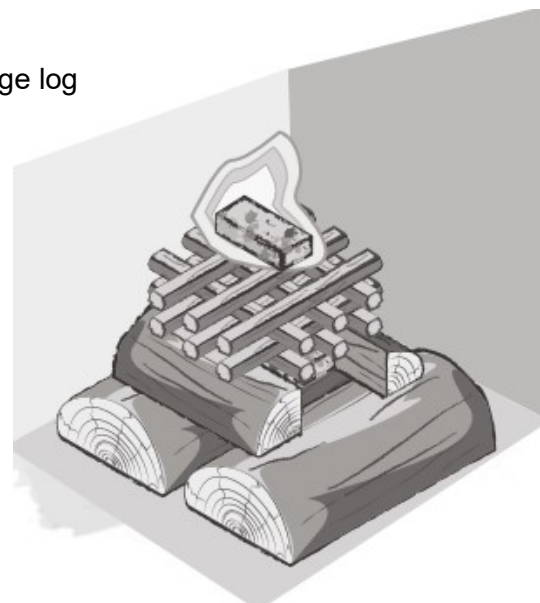

Fig. 6
- On top of the smaller logs, build a grid of kindling and place a further fire lighter on the very top. (See Fig. 6)